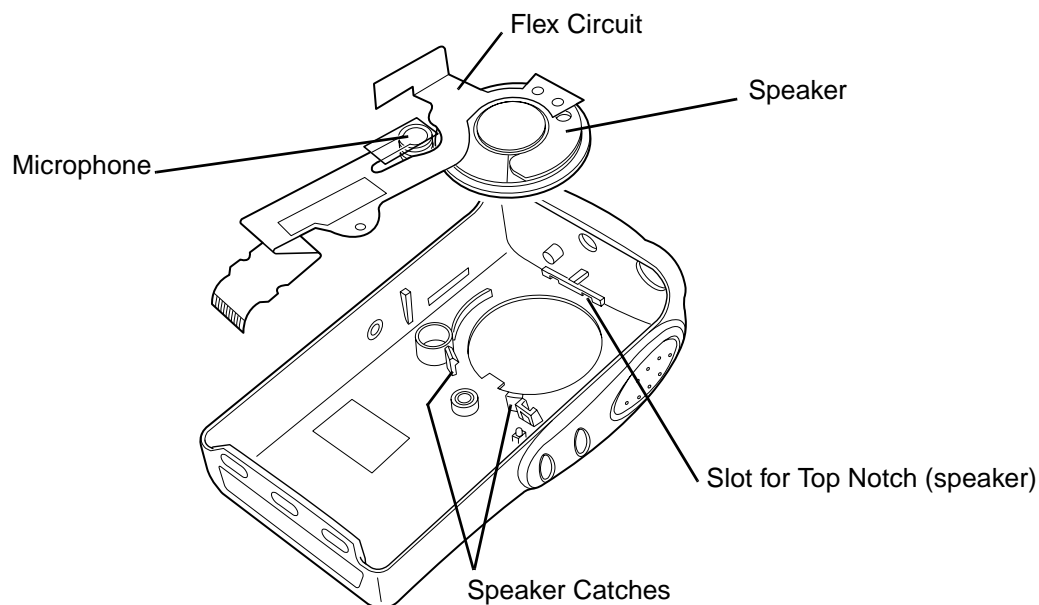

Figure 3-6 Removal of Speaker-Microphone Assembly
5. Align the top notch in the speaker at the twelve o'clock position with the tab on the front cover. (See Figure 3-6.) Push down the speaker until the two bottom notches fit into the catches on the housing.